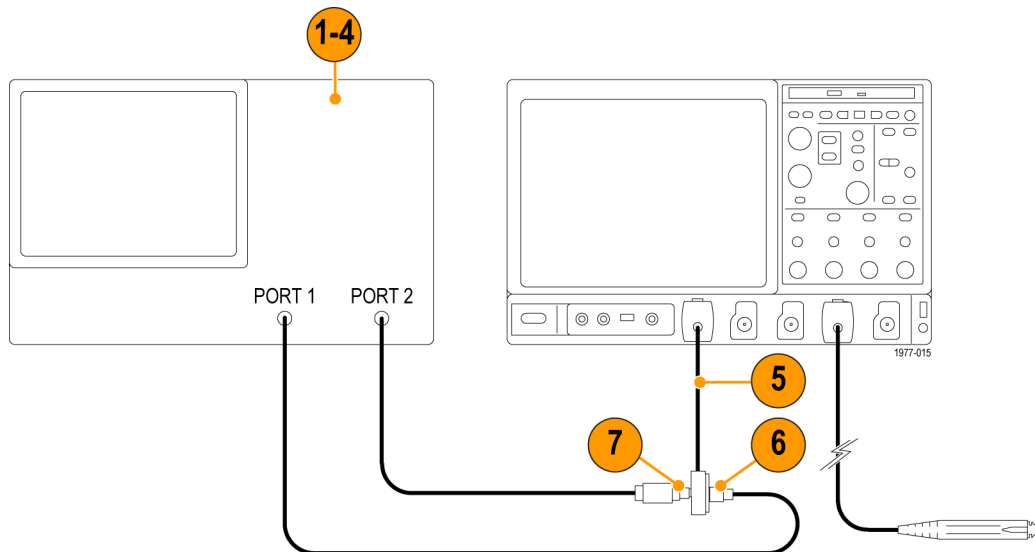

Figure 15: Normalize the signal path for the following tests
7. Attach the cable from port 2 of the network analyzer to the SMA connector on the TekVPI Calibration Fixture. Use a male BNC adapter if necessary. The setup should now appear as shown. (See Figure 15.)